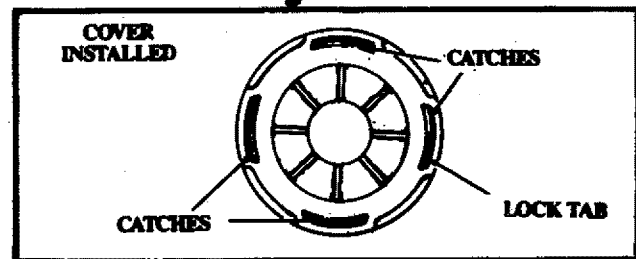

Figure 24
- 1.) Align the four Catches on the Hub with the cutouts in the Cover. Figure 24.
- i. Check to make sure all four Catches and the Lock Tab are properly fastened as shown in Figure 24, then test the Cover by trying to turn it counterclockwise.